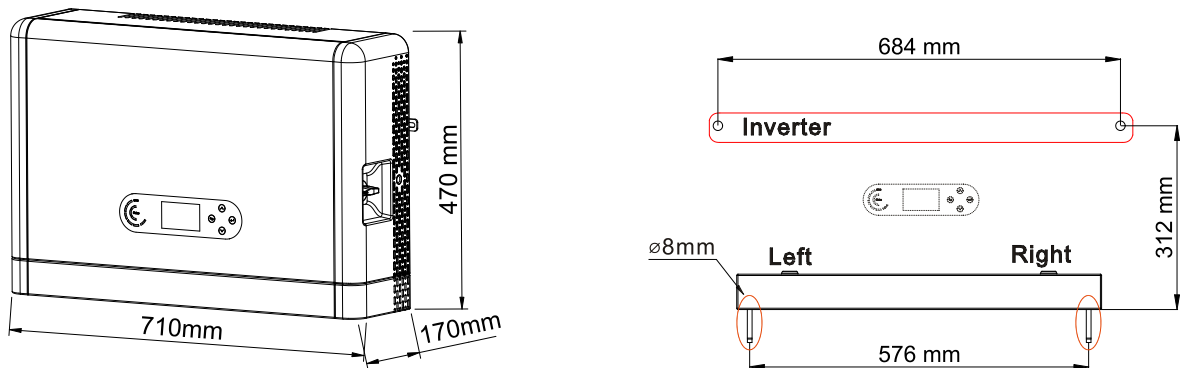

Figure 3.5-1 ESI series installation dimensions diagram
- 3) Use a marker to mark holes for securing the inverters based on the dimensions shown in Figure 3.5-1.